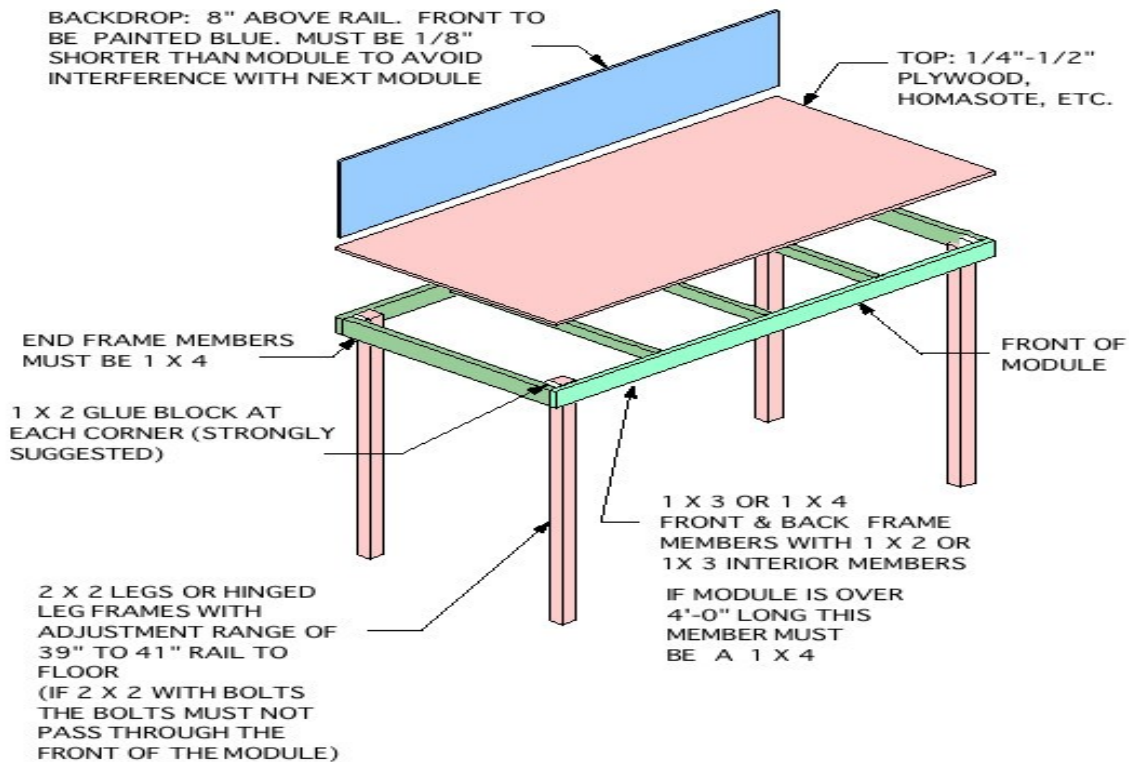

Figure 1: BASIC MODULE CONFIGURATION
- I. **Construction** – The components of a basic module are illustrated in Figure 1.
1. Use 1x4 or 1x3 dimension lumber (pine, fir, poplar) for main structure framing. The end plate must be 1x4 as shown in Figure 1.